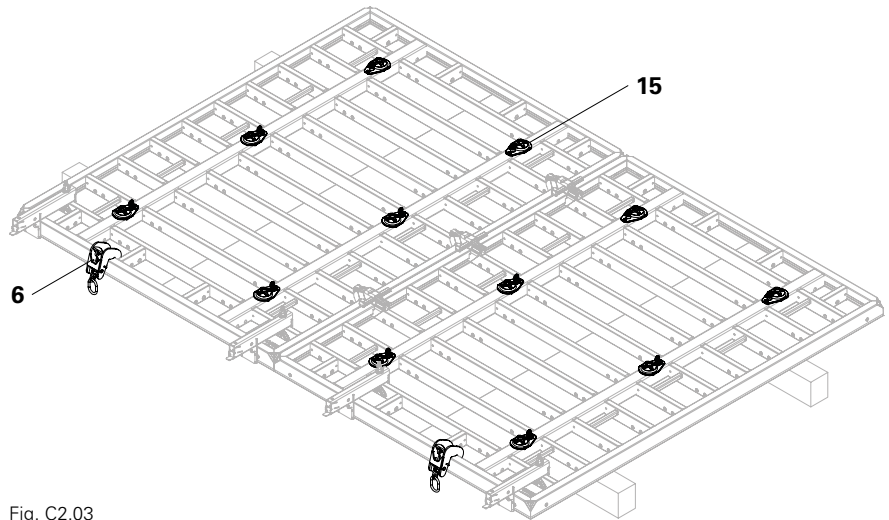

Fig. C2.03
6. Mount Swivel Nut MX 15 (**15**). (Fig. C2.03)